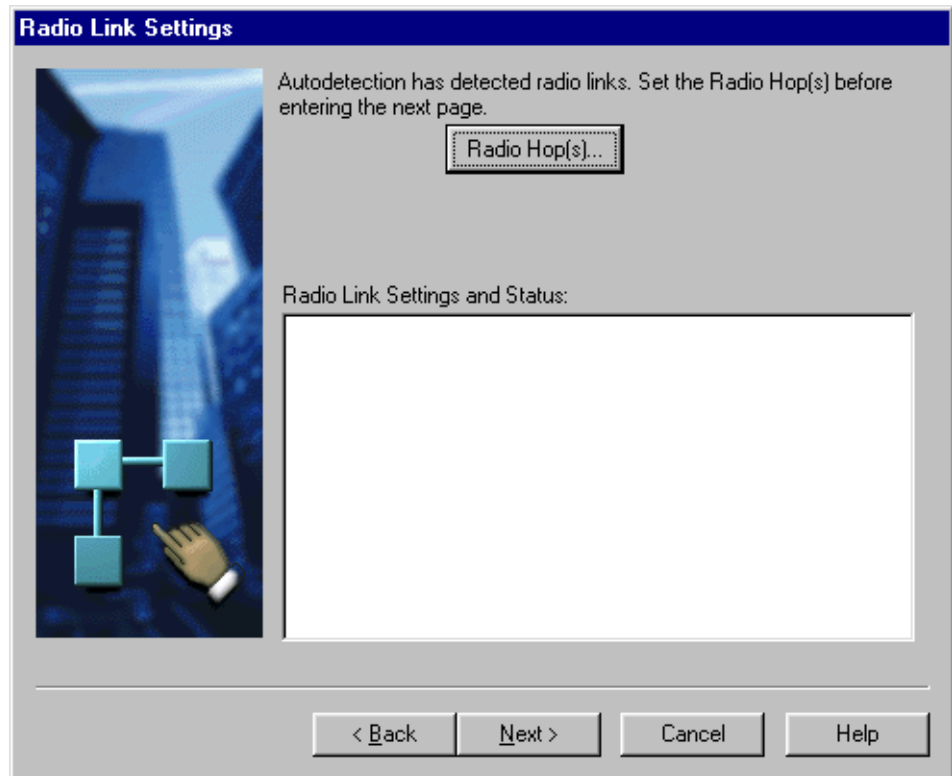

Figure 6. Radio link settings in Nokia BTS Manager's Commissioning Wizard
5. The *Radio Links Settings* wizard page appears if BTS Manager detects an F(X)C RRI transmission unit in the BTS configuration (see Figure 6). If there are no radios in the BTS configuration and this wizard page does not appear, proceed directly to the next step in this procedure.